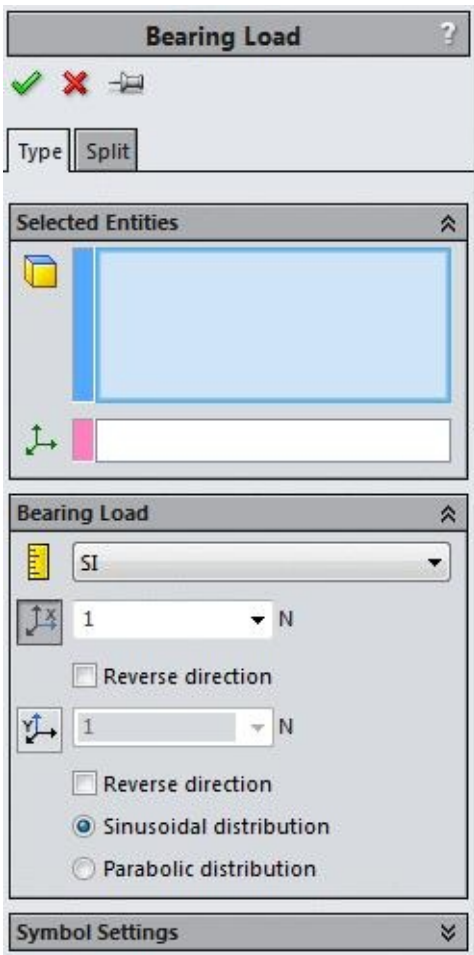

Figure-48. Bearing Load PropertyManager
- Click on the **Bearing Load** option from the **External Loads Advisor** drop-down. The **Bearing Load PropertyManager** will be displayed as shown in Figure-48.